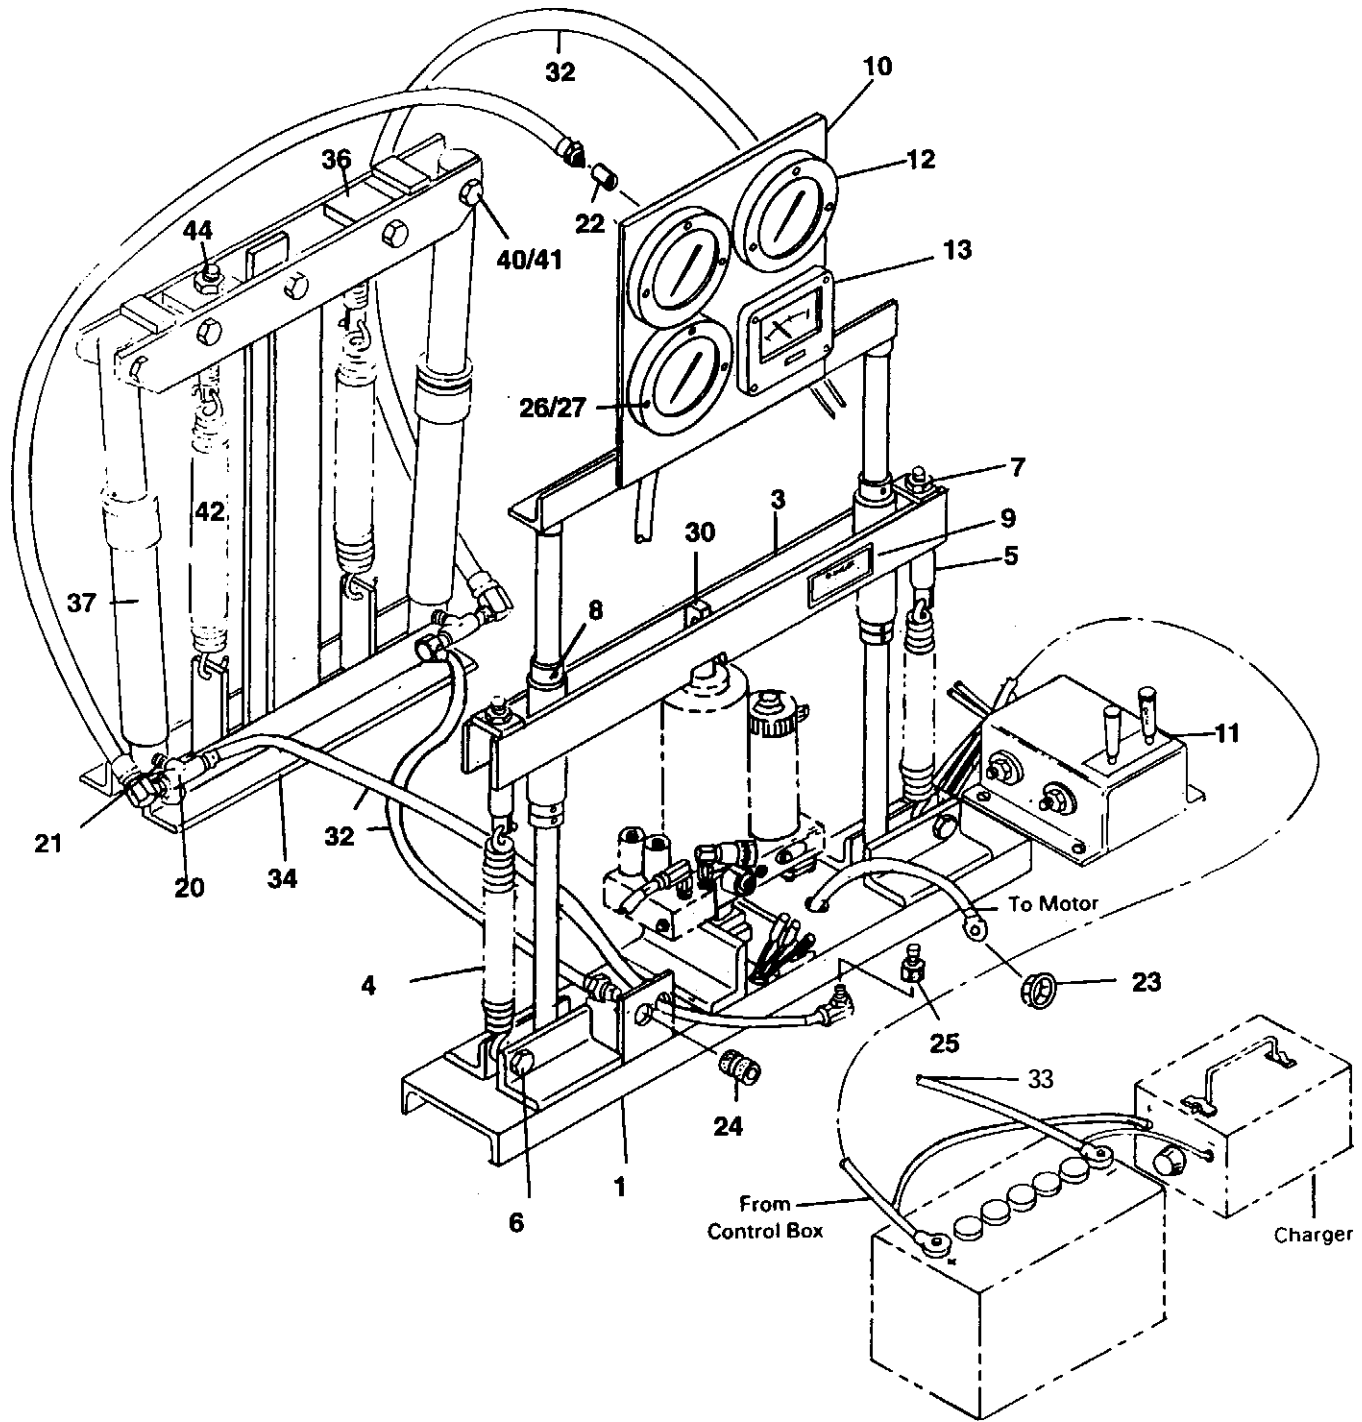

Figure 1
1) Set up the test stand as shown in Fig. 1. Choose a bench that is approximately 36" high. Locate the test stand unit (1) on the test bench approximately 6" back from the front edge and to either side of the bench leaving a space for a work area. Position the power angling base approximately 8" - 10" behind the test stand unit. Secure both the test stand unit (1) and power angling base to the test bench.
2) Assemble gauges to the test panel (10) and install test panel assembly to the test stand (1). Tighten the Allen Srews securely.